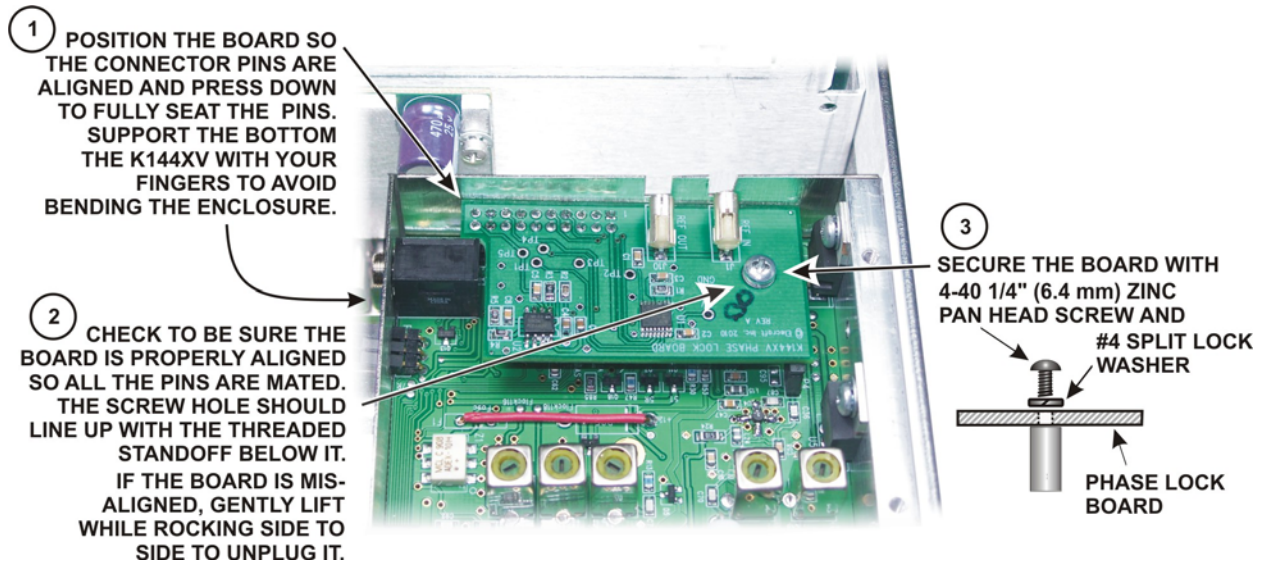

Figure 3. Installing the Phase Lock Board.
□ Install the Phase Lock board in the K144XV module as shown in Figure 3. The board plugs into P5 on the K144XV board at the end nearest the K3 front panel.